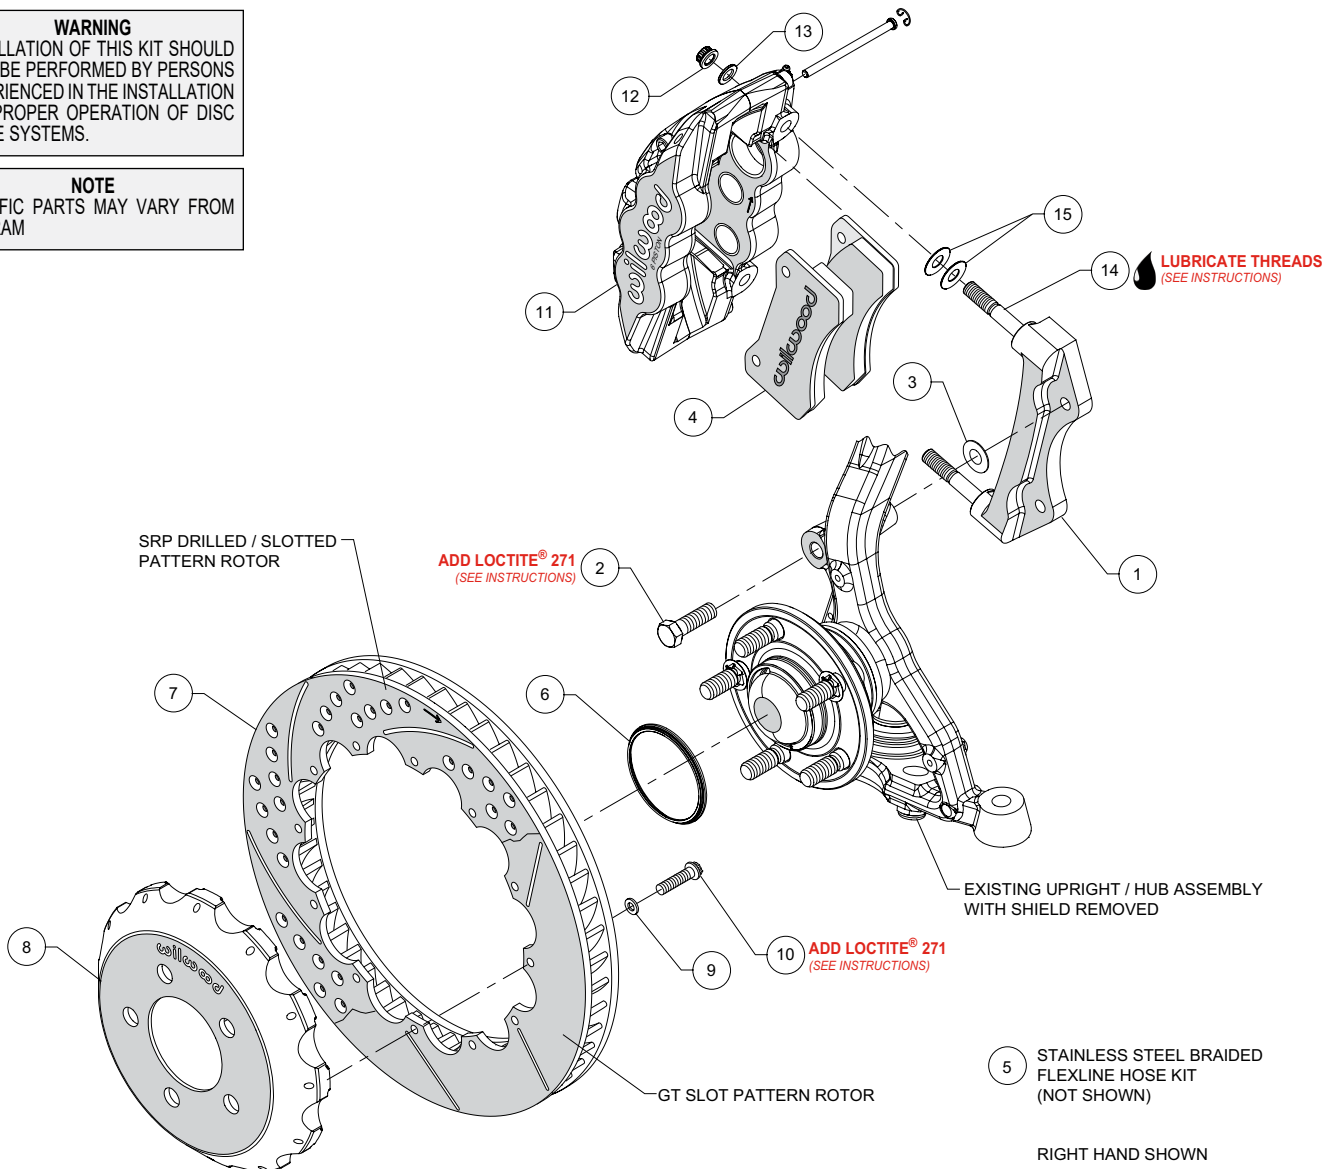
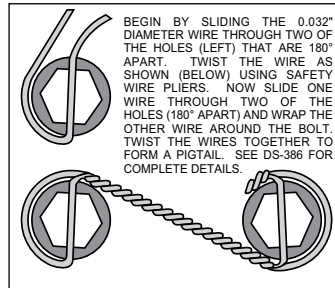

Figure 1. Typical Installation Configuration
Figure 3. Safety Wire Diagram
Assembly Instructions (numbers in parenthesis refer to the parts list and Figure 1 on the preceding pages):
- The caliper mount bracket (1) should initially be installed with clean, dry threads on the mounting bolts. Orient the bracket as shown in Figure 1 and Photo 1 and install using mount bolts (2). Initially place one .029" thick shim (3) on each bolt between the bracket and upright, Figure 1. Temporarily tighten the mounting bolts. **NOTE: The bracket must fit squarely against the mount bosses on the upright.** Inspect for interference from casting irregularities, machining ridges, burrs, etc. Later, after the caliper alignment has been checked, the mount bolts will be secured using red *Loctite*® 271.
- Orient the rotor (7) and the hat (8) as shown in Figure 1 and Photo 2. Attach rotor to hat using bolts (10) and washers (9). Apply red *Loctite*® 271 to the bolt threads and torque to 155 in-lb using a criss-cross pattern. For an added measure of security, the bolts may be safety wired using standard 0.032 inch diameter stainless steel safety wire as shown in Figure 3. Please refer to Wilwood's data sheet DS-386 (available at www.wilwood.com/Pdf/DataSheets/ds386.pdf) for complete safety wire installation instructions.
- **NOTE: This kit contains distinct right and left hand calipers that must be mounted in a specific direction, as described below.** Lubricate the caliper mounting studs (14) with lightweight oil. Initially place two .030" thick shims (15) on each stud between the caliper and the bracket, as shown in Figure 1 and Photo 4. Mount the caliper (11) onto the bracket (1) using lock nuts (12) and washers (13), Figure 1. Temporarily tighten the lock nuts. Ensure that the caliper is mounted so the largest pistons are at the rotor exit end of the caliper, in relation to the direction of the rotor. View the rotor (7) through the top opening of the caliper. The rotor should be centered in the caliper, Photo 5. If not, adjust by adding or subtracting shims (3) between the bracket and the upright. Always use the same amount of shims on each of the two mounting bolts. Once the caliper alignment is correct, remove the bracket mounting bolts one at a time, apply red *Loctite*® 271 to the threads, and torque to 77 ft-lb.
- Remove the two pad retaining pins from the caliper (11) by carefully popping out the pin retaining clips and sliding out the pins. Insert the brake pads (4) into the caliper from the bottom, Figure 1 and Photo 6. With the friction material facing the rotor, secure the brake pads in place with the pad retaining pins